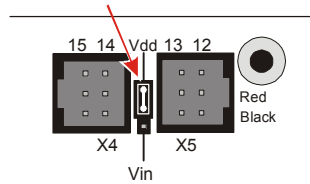

Figure 4-5
Figure 4-5 shows the servo header on the Board of Education Rev C. This is where you will plug in your servo. This board features a jumper that you can use to connect the servo's power supply to either V_{in} or V_{dd} . The jumper is the removable black rectangular piece right between the two servo headers.
- ✓ Set the jumper to V_{dd} as shown in Figure 4-5. This involves lifting the rectangular jumper up off of the pins it is currently on, and replacing it on the two pins closest to the V_{dd} label.